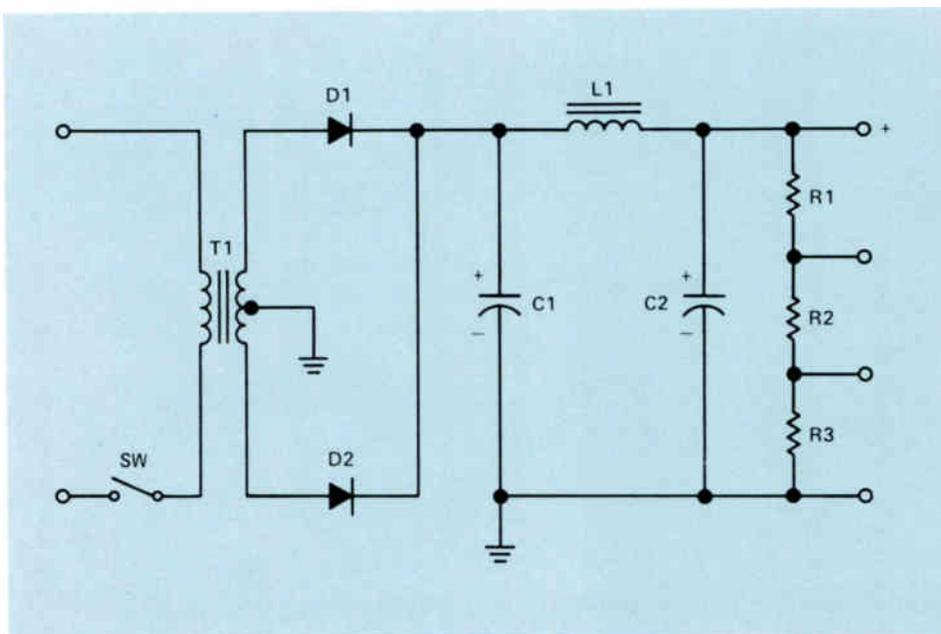

Figure 21. A full-wave power supply.
Most modern electronic equipment you will encounter will use full-wave power supplies with either a rectifier circuit like the one shown in Fig.21 or a bridge rectifier. Bridge rectifiers are widely used because the savings in the cost of the transformer more than offsets the cost of the two extra rectifiers. While half-wave rectifiers are not as common, they are useful in some applications.
- 20 What is the disadvantage of the full-wave power supply shown in Fig.21 compared to a bridge rectifier?
A simple full-wave power supply is shown in Fig.21. Notice that this power supply uses a power transformer and that the secondary of the transformer is tapped and the tap is grounded. During one half-cycle, D1 will conduct and during the other half-cycle D2 will conduct.